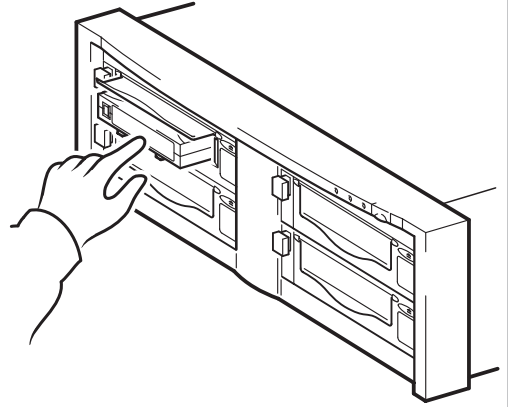

Figure 10b: using HP OBDR, step 2
- 2 Hold down the eject button of the tape drive. Keeping the eject button pressed down, power on your tape array and server (see Figure 10b). This activates the HP One-Button Disaster Recovery process. Release the button as soon as the Ready LED on the front panel flashes in the OBDR sequence. This is a repeated pattern of: flashing-steady on-flashing.